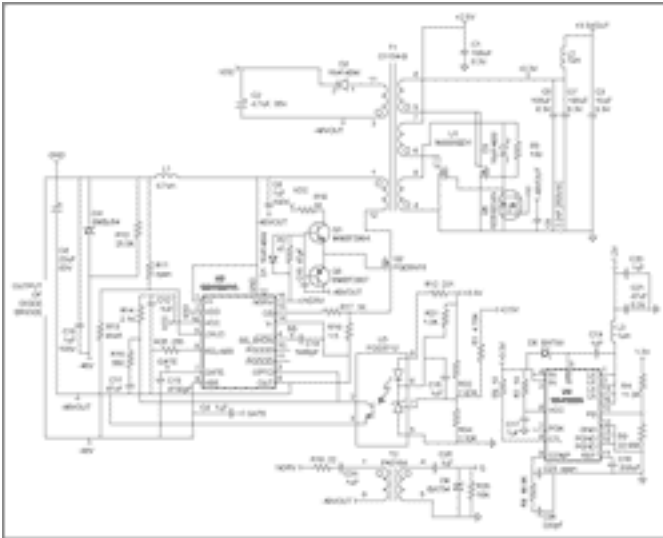

Figure 1. Schematic of power supply. (PDF Download)
**Figure 1** is the circuit diagram of the triple-output POE power supply using the MAX5941A IEEE802.3af-compliant POE interface plus a current-mode PWM controller(U2). The power supply has a flyback topology with synchronous rectifiers on the 3.3V and 2.5V output, and a buck converter with synchronous rectification for the 1.2V output of the 3.3V. The circuit diagram does not include the diode bridge portion of the input section.